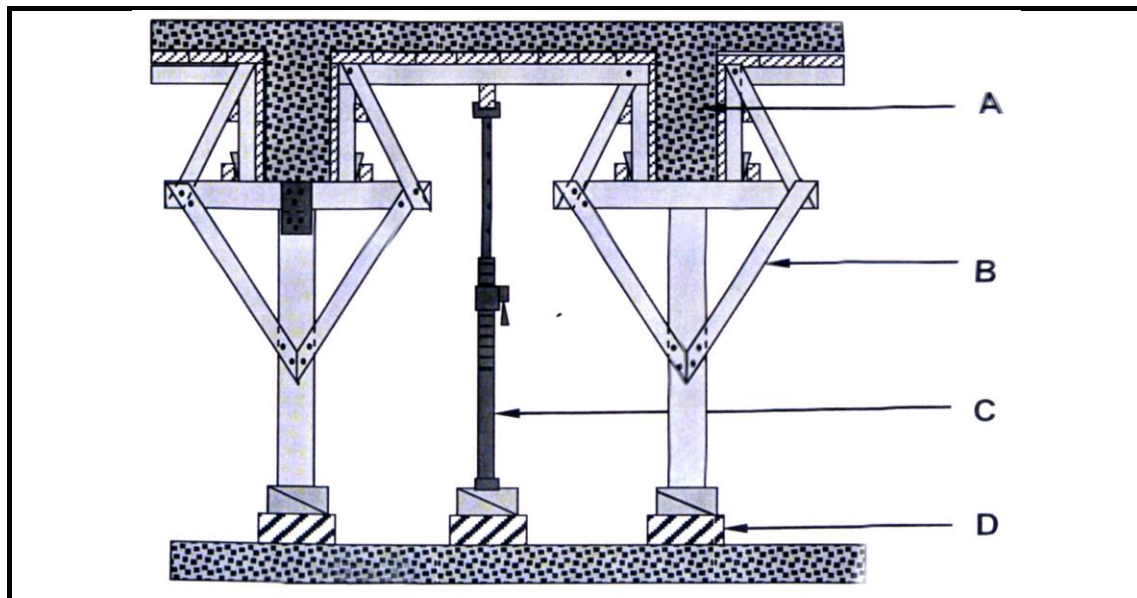

FIGURE 5.5
- 5.5 FIGURE 5.5 below shows a vertical sectional view through formwork for two concrete beams. Study FIGURE 5.5 and answer the questions that follow.